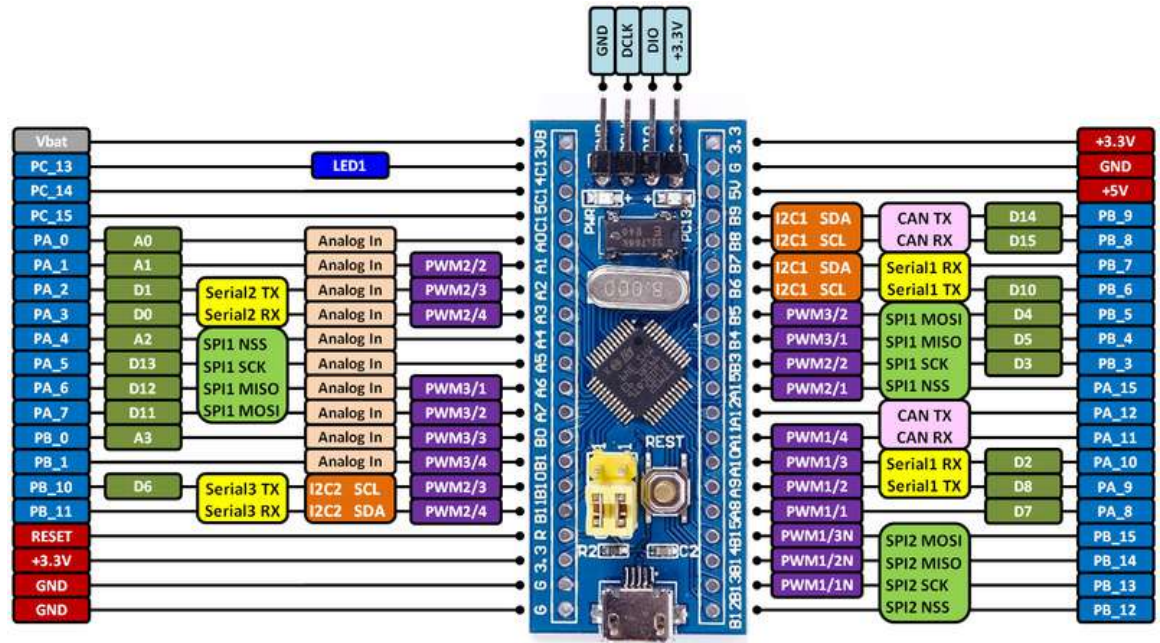

Figure 12.2.2.5.1: Pin Connections of STM-32
12.2.2.4. The STM32F103C8T6 micro-controller in Fig. 12.2.2.5.1 has two ground pins, few analog input pins and few digital pins that can be used for both input as well as output. It has one Vcc (3.3V) pin that can generate 3.3V. In the following exercises, only the GND, 3.3V and digital pins will be used.